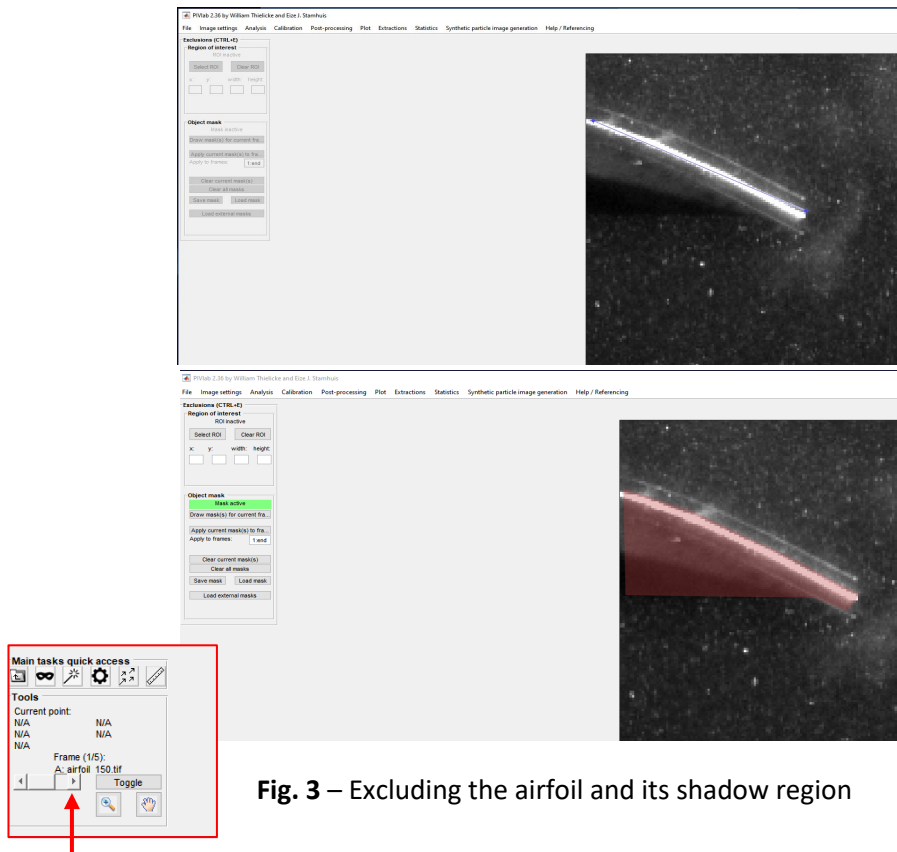

Fig. 3 – Excluding the airfoil and its shadow region
- Click on Draw mask(s) for the current frame. The cursor changes to a cross shape, allowing you to draw line segments on the active frame. Start from one point and draw line segments to enclose the area you would like to exclude. Once you close the last segment back on to starting point, the software fills the polygon showing the masked region (Fig. 3).